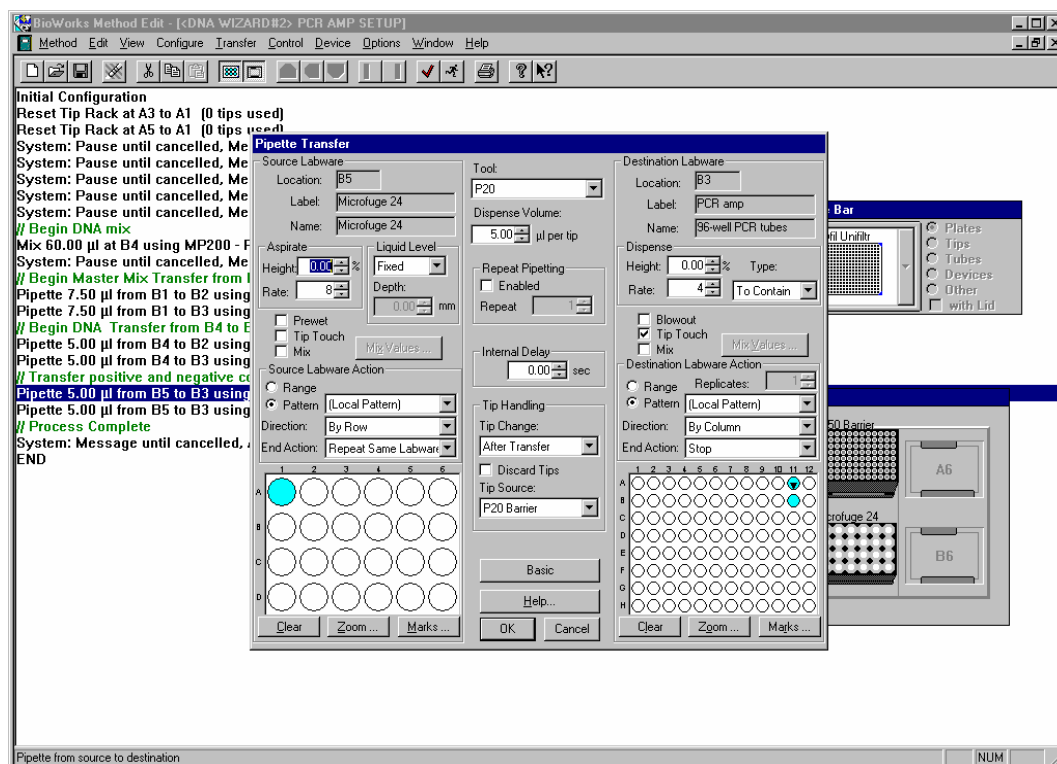

Figure 21. Transferring the positive control.
- 5.6.5 In order to instruct the robot into which tubes to pipette the positive control, double click on the line “Pipette 5 uL from B5 to B3 using MP20-P20 Barrier” that appears below the green line “Transfer positive and negative controls” (Figure 21). This step will only need to be customized for the Destination Labware to accommodate the number of tubes to amplify positive control. Highlight those tubes into which the positive control will be pipetted. Click OK when finished.